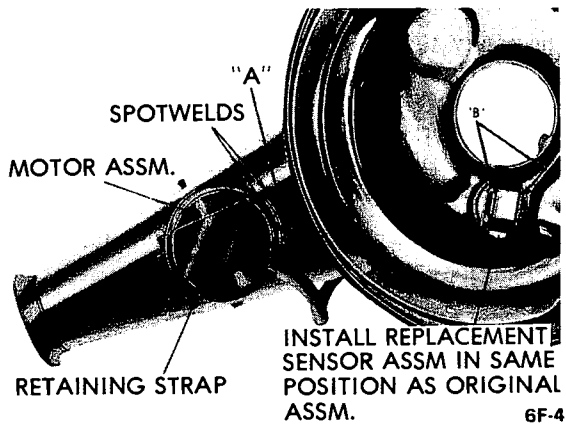

Figure 6F-3 - Replacing Vacuum Motor Assembly
3. Remove vacuum motor retainer strap. See Figure 6F-3.
5. Drill a 7/64" hole in snorkel tube at point "A" as shown in Figure 6F-3.